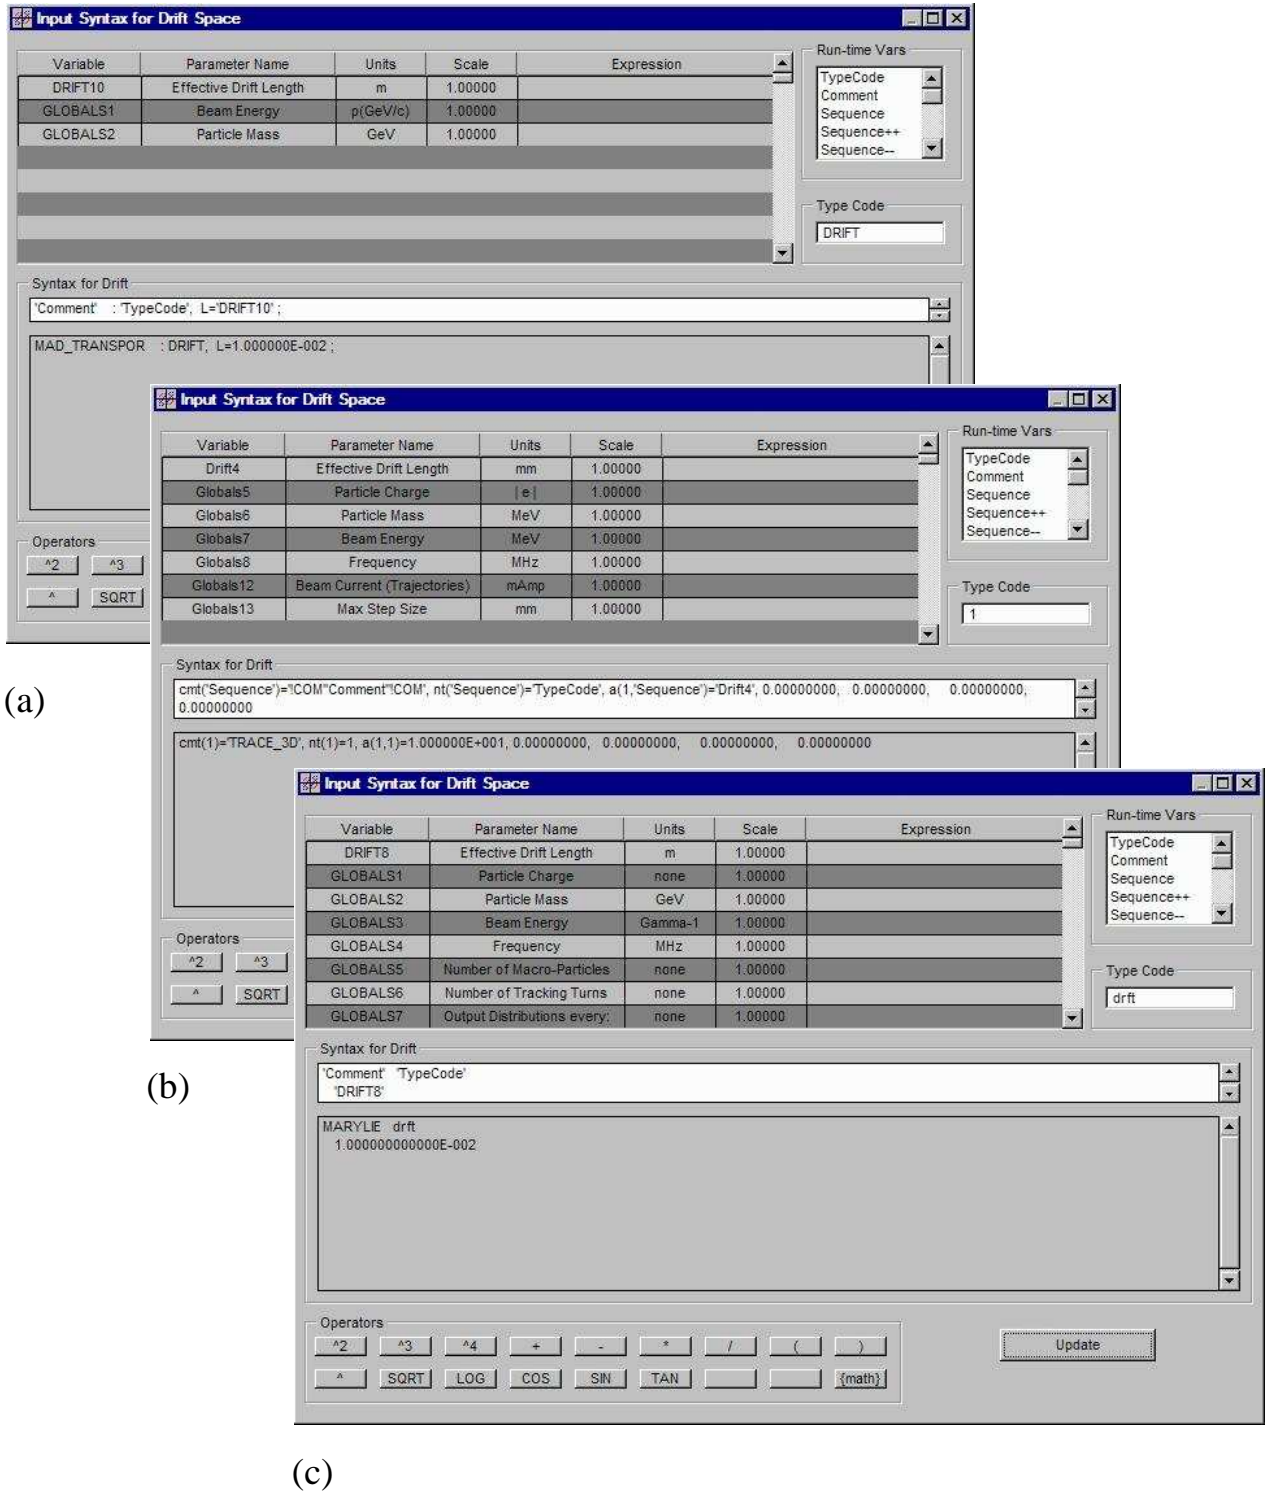

Figure 23. Input Syntax for Drift Space windows for three (3) different computation engines: (a) "MAD" style TRANSPORT, (b) TRACE 3-D and (c) MARYLIE.
Figure 23 shows some Input Syntax for Drift Space windows with syntax developed for three (3) additional computation engines. From top to bottom these computation engines are: (a) "MAD" style TRANSPORT, (b) TRACE 3-D and (c) MARLYIE. The MAD style TRANSPORT version uses descriptions of beamline elements that are similar to those in the DIMAD-sample OModule.